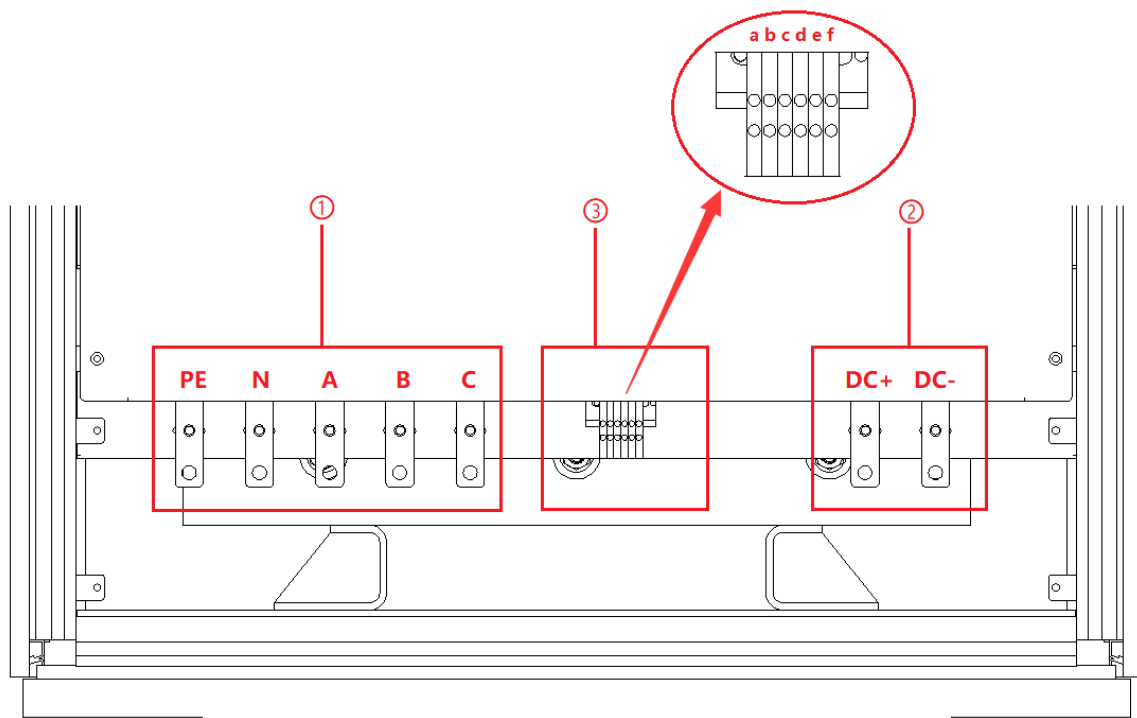

Figure 1-13
The interface is located in the internal wiring layer of the power supply-③: e, f (Figure 1-13).